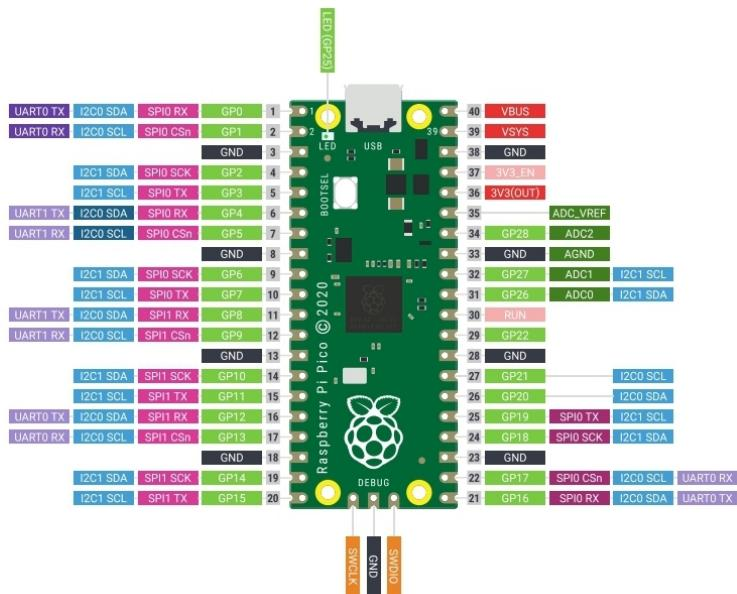

Fig. 10.1: Pin diagram
**Solution:** Connect the LED to pico as per Table 10.1 and Fig. 10.1